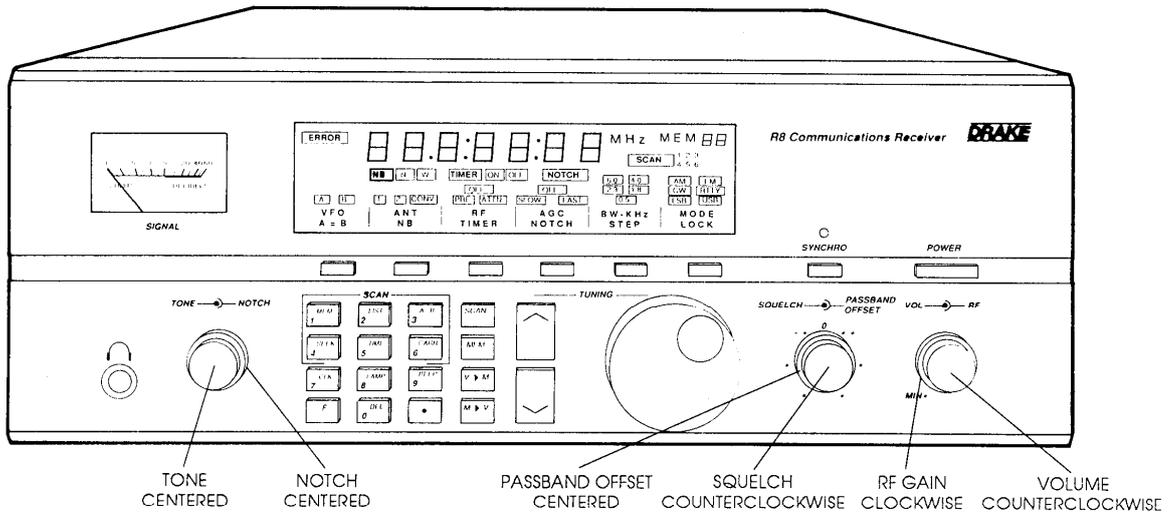

FIGURE 7
1. Please refer to FIGURE 7 and adjust controls as shown.